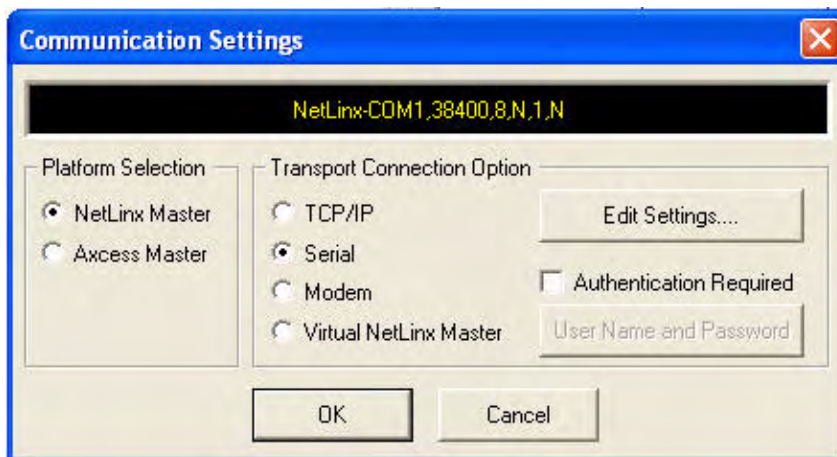

FIG. 40 Communications Settings dialog box
3. Click the **Communications Settings** button to open the *Communications Settings* dialog (FIG. 40).